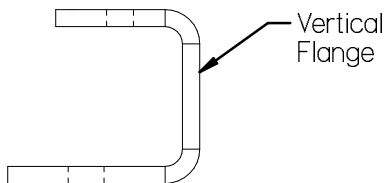
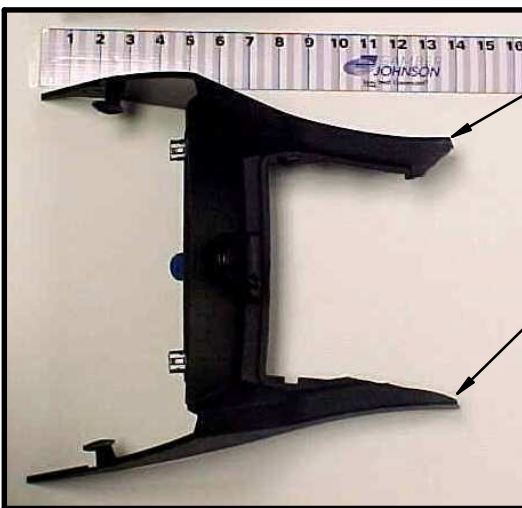

FIG. 1
FIG. 3
2. Next, remove the plastic console cover (see FIG. 3). Notice that there are a total of six threaded studs on the transmission hump of the vehicle (in some models the rear leg gets fastened via two threaded holes and bolts). Place the REAR ANCHOR LEG on the two rearmost threaded studs, or over the threaded holes, oriented so that the VERTICAL FLANGE (see FIG. 1) is towards the front of the vehicle. Otherwise, it will be difficult to fasten the hardware for the Gamber-Johnson Top Plate. The FRONT ANCHOR LEG will sit on the four threaded studs nearest the dashboard of the vehicle. See FIG. 2 for an illustration of how both the FRONT and REAR ANCHOR LEGS will appear when mounted correctly.
5. It will be necessary to modify the Plastic Console Cover removed in Step 1 before replacing it in the vehicle. Cut the cover just in front of the opening as shown in FIG. 3.